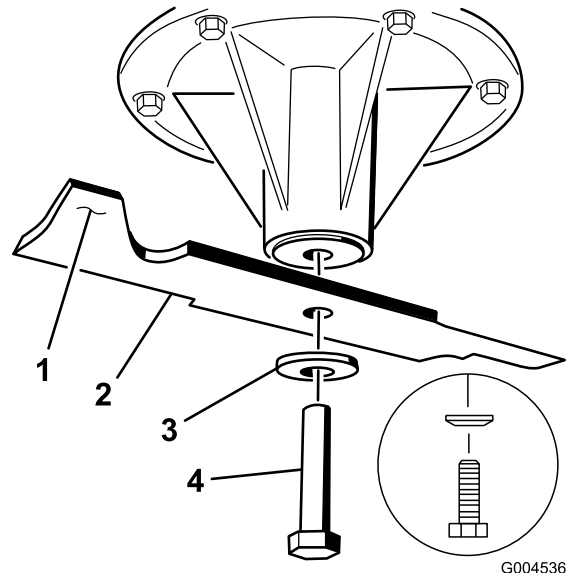

Figure 100
2. Remove the blade bolt, curved washer, and blade from the spindle shaft (Figure 100).